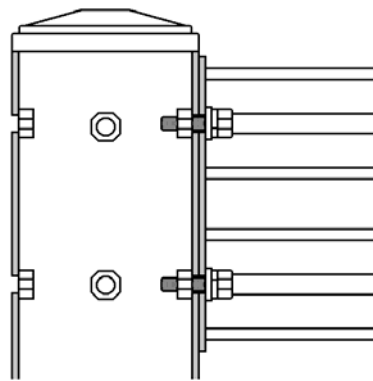
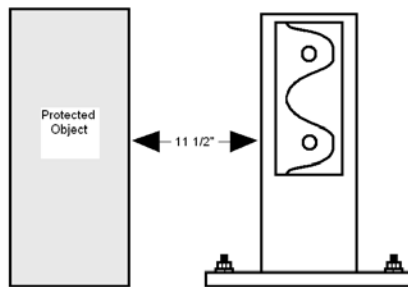

Figure 1 – Cut-Away View
Figure 2 – Rail Placement
5. Using the provided hardware, bolt the rails into place on the columns as seen in Figure 1. The front of the rail with the Handle-It logo should face away from the protected object as seen in Figure 2. Please Note: When installing Lift Out Adaptor option, the included lock washers are not required.